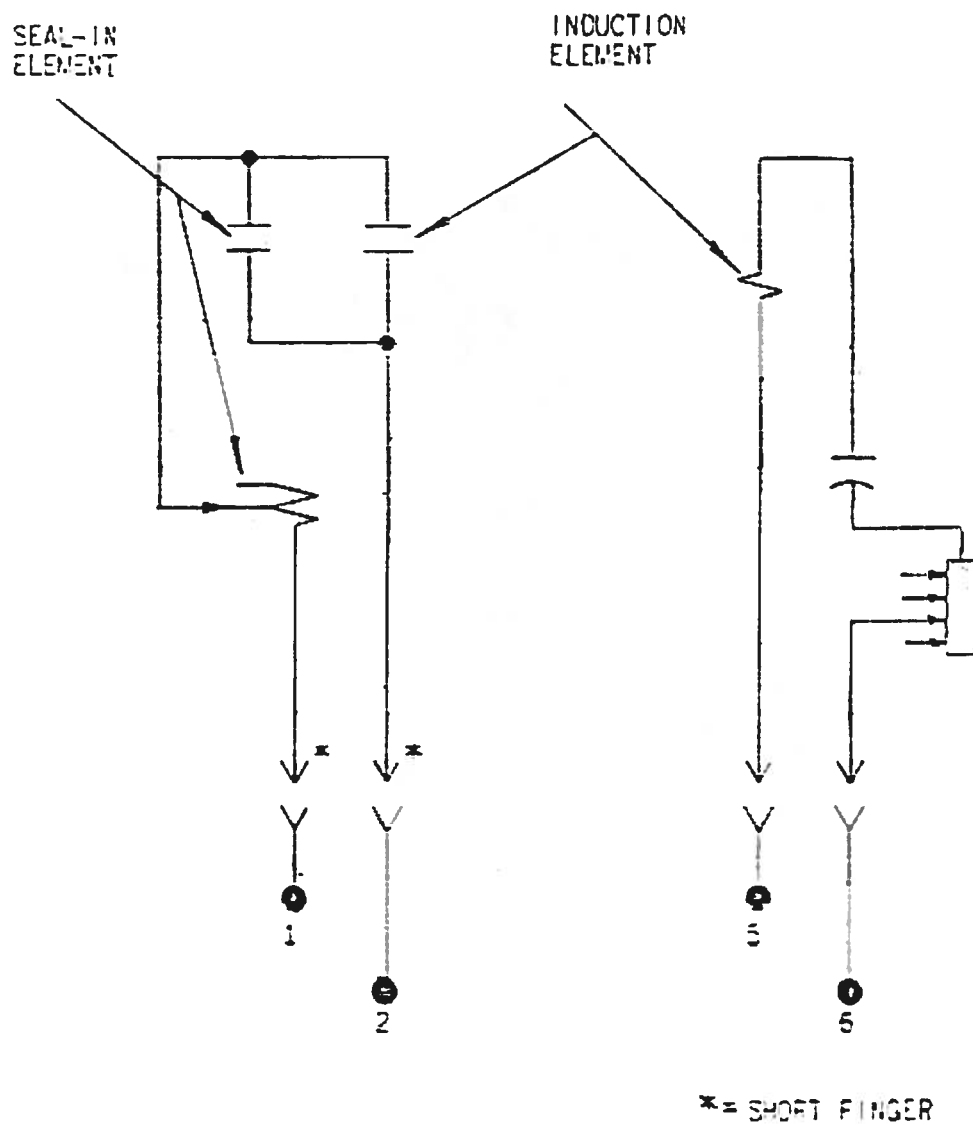

FIG. 3 (K-6400439-5) INTERNAL CONNECTIONS OF THE TYPE IAV51D RELAY, FRONT VIEW
Internal connections are shown in Figs. 3 to 7 for the various relays.
- FIG. 3 (K6400439-5) INTERNAL CONNECTIONS OF THE TYPE IAV51D RELAY, FRONT VIEW